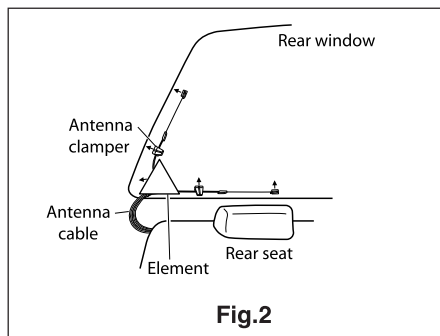

Fig.2
- 3 Pinch the antennas and fix them onto the window panel, by using the attached antenna fixing clamps. (Fig. 2)